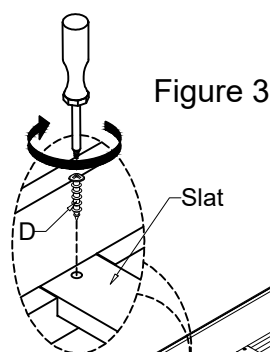

Figure 3
Lay assembled Slats with support legs on the cut-outs of bed rail's cleats. Secure Wood Screw (D) through pre-drilled holes on ends of Slats with a Phillips head screw driver (not provided). (See Figure 3).